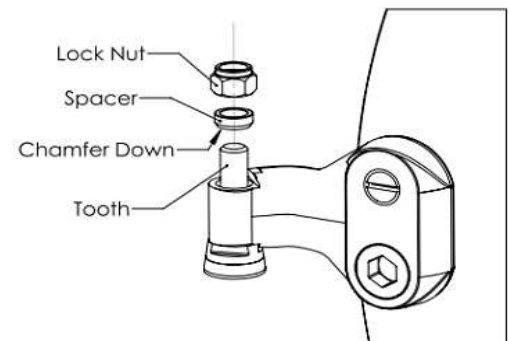

Figure 1.2
9. Install your teeth with the carbide facing down. The shoulder of the tooth will meet the flat indent of the pocket and the tooth will not rotate. Insert spacer over shank Chamfer down then thread one of the lock nuts onto the top portion of the tooth. Hand tightening is good for now. Repeat until all teeth are installed. (Figure 1.2)